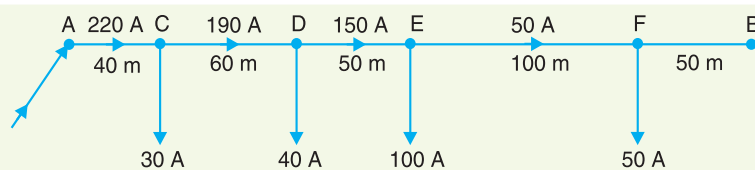

Fig. 13.7
**Solution.** The single line diagram of the distributor along with its tapped currents is shown in Fig. 13.7. Suppose that resistance of 100 m length of the distributor is  $r$  ohms. Then resistance of various sections of the distributor is :
Referring to Fig. 13.7, the currents in the various sections of the distributor are :